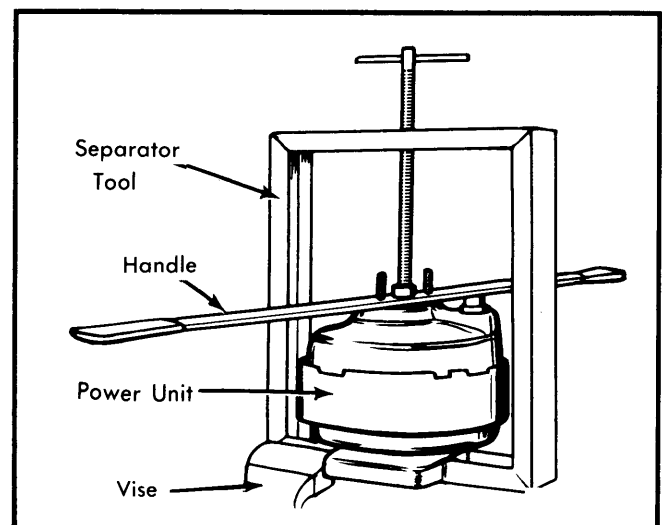

Fig. 2 Separating Front and Rear Housings Showing Separator Tool and Spanner Handle
10) Attach a holding fixture (J-22805) firmly to front housing. Place holding fixture in separator tool or arbor press. See Fig. 2.